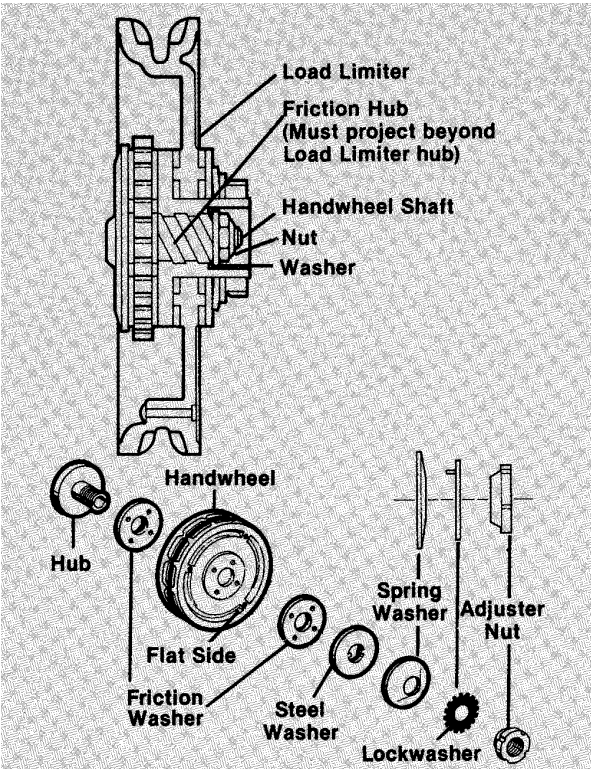

FIGURE 11. Load Limiter Assembly
The handwheel shaft nut and washer must tighten against the friction hub, not the Load Limiter (see Figure 11). the Load Limiter must be free to revolve slightly on the friction hub. If the Load Limiter is disassembled, it must be recalibrated before being placed in service.
**Calibration.** Install the Load Limiter (see Figure 11) and hand chain but not the handwheel cover. Mount the hoist where a load greater than that shown in Table 3 can be applied. Connect a straight spring scale to the hand chain so that a pull can be applied in the hoisting direction.